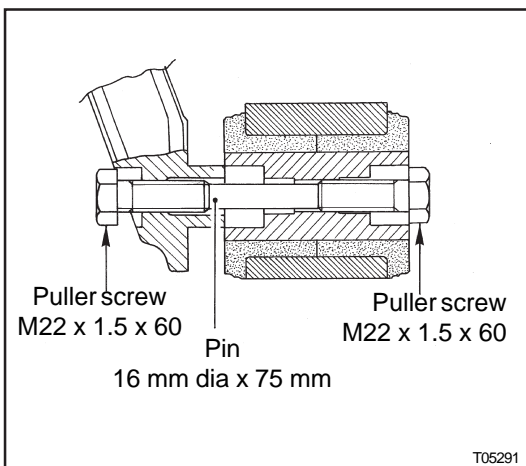

**Figure 45: View from above on the LHS suspension assembly half**
**To remove the articulation bushings - Figure 45**
4. With bolts (1, Figure 45) loose, fit suspension arms (1) in articulation assembly shaft (3) ends. If necessary, use a soft headed mallet.
5. Install articulation assembly bolt (2) with special spring washers (6) and a new nut. Spring washers (6) must only be fitted with the dished side towards the suspension arm. Handtighten the nut of articulation assembly bolt (2).
8. Tighten articulation assembly bolt (2) to a torque of 300 + 50 Nm (220 + 35 ft.lbf). To make sure there is equal strain on the rubber bushings when the wheel moves up or down, it is essential to tighten the bolt with the suspension arms parallel to the ground. To do this, jack up the steering knuckle carrier.